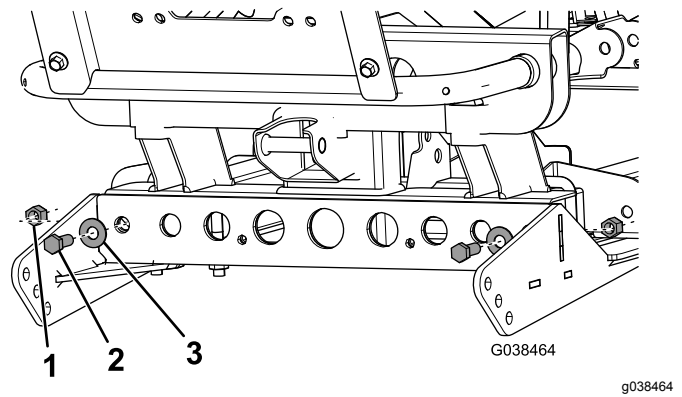

Figure 7
5. Loosely secure the front of the skid plate to the vehicle frame using 2 hex-head bolts (3/8 x 1 inch), 2 washers, and 2 locknuts (3/8 inch) as shown in Figure 7.